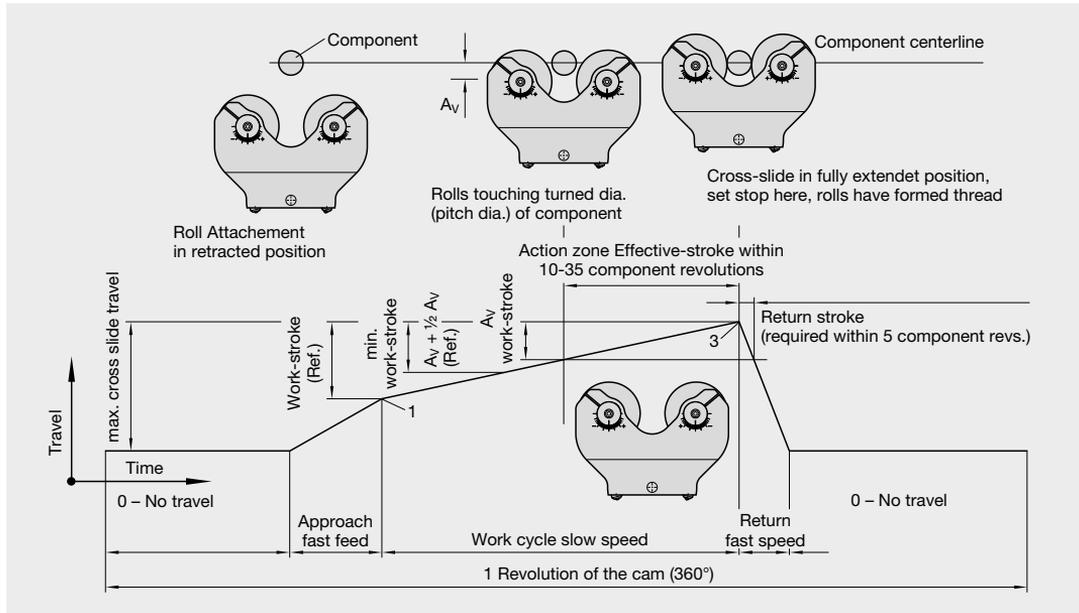

Figure 16: The tangential rolling process
Each step is shown in figure 16. Make sure that the fast feed approach is finished before the beginning of the work cycle. The working feed is the theoretical travel “AV” of the *rolling system* from the moment of initial contact of the rolls on the workpiece diameter all the way up to the end position of the work cycle. The working feed (AV) is shown in the table below. The precise “Av” value of an specific application is written on the setting gauge. The actual working feed should be completed within $W = 20$ workpiece rotations.